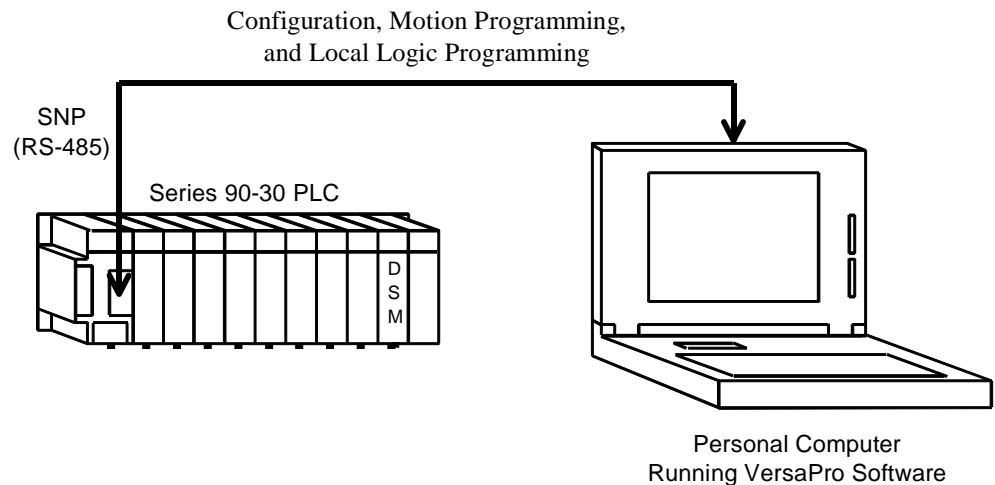

Figure 10-21. VersaPro Programmer Connection Diagram
VersaPro software has several communications options. The most commonly used communications option is to connect directly to the PLC SNP port, shown in Figure 10-21 below. Ethernet options are also available. All DSM314 programming is done through the VersaPro interface, yielding single point of programming for the module. (The DSM314 also has a serial port on the module faceplate which is used only for updating the DSM314's firmware.) Local Logic and Motion programs are stored by VersaPro to a dedicated memory space inside the PLC CPU. The DSM314 then requests these programs by name from the CPU during configuration. The link to the programs the DSM314 requests from the CPU is contained in the Hardware Configuration for the PLC rack. The benefit is that programs are not module-specific but are rack/slot specific. Thus, if there is a need to swap DSM314s within a PLC, or to replace a DSM314, the user only needs to perform the following three steps: (1) turn off power to the PLC, (2) change out the DSM314 modules, and (3) reapply power to the PLC. Upon powering up, the PLC will send the correct programs and configuration settings to the DSM314s.